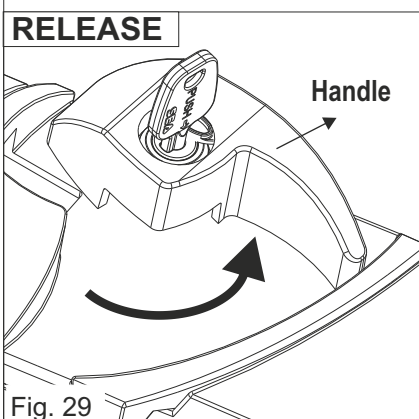

Fig. 29
- 3) Turn the handle counter-clockwise to release the operator (Fig. 29)